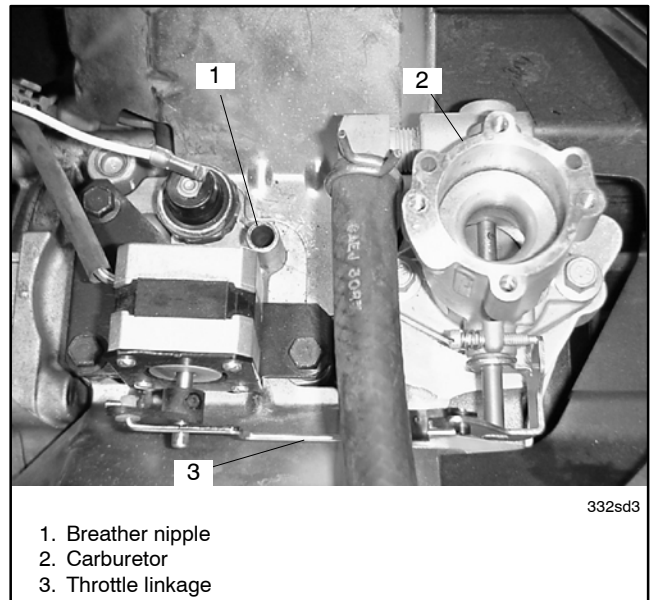

Figure 7 Engine Crankcase Breather Nipple
- 4.2 Place the heater on the carburetor without a gasket and adjust the angle of the breather tube to line up with the breather nipple on the engine crankcase. See Figure 7.